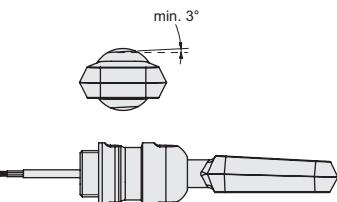

Fig. 4: pms sensor D12-adapter shaft with sensor screw connection BF-pms/A1, all surfaces must be inclined at least 3°
- If the sensor is cleaned wet, all surfaces must be inclined at least 3° from the horizontal alignment so that the cleaning agents can run off completely (see Fig. 4 to Fig. 6). There is a risk that condensate or dripping water might drip from the sensor and mounting brackets into the product area.